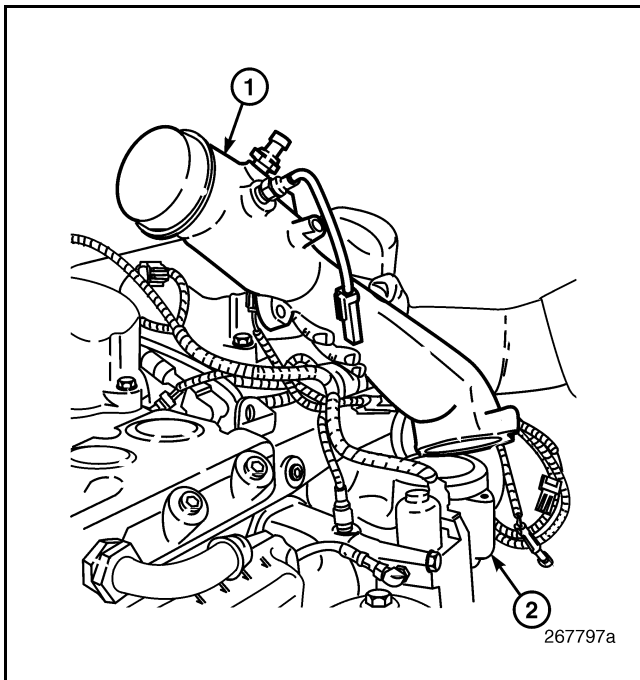

Figure 511 — EGR Gas Mixer
- Place the mixer tube in position on the inlet manifold (Figure 511) and install the two mounting capscrews. Tighten the capscrews to specification, 40 lb-ft (55 N•m).